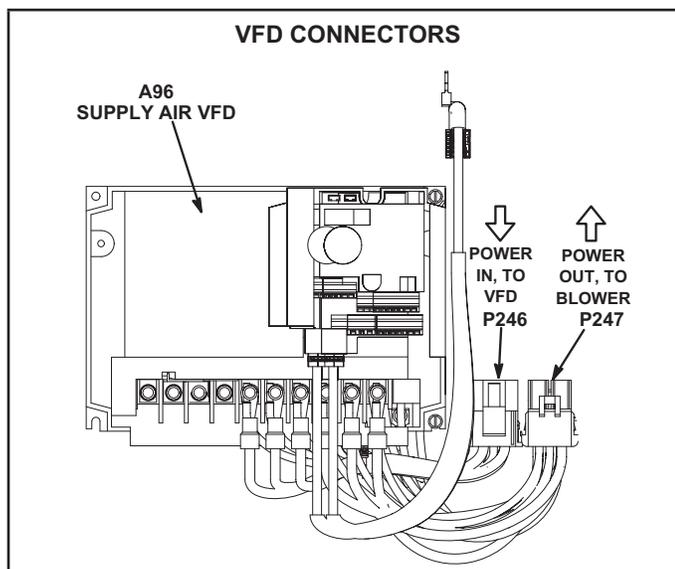

FIGURE 35
- 2 - Locate P246 and P247 connectors near the VFD. See FIGURE 35.